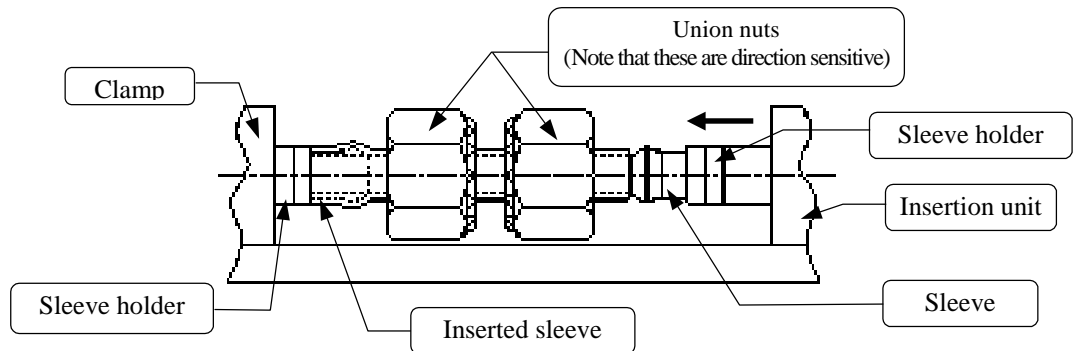

Figure 29. Parts arrangement
- Loosen the knob located below the tube holder, position the tube holder so as to allow the arrangement shown in Figure 29, and then retighten the knob to secure the tube holder.